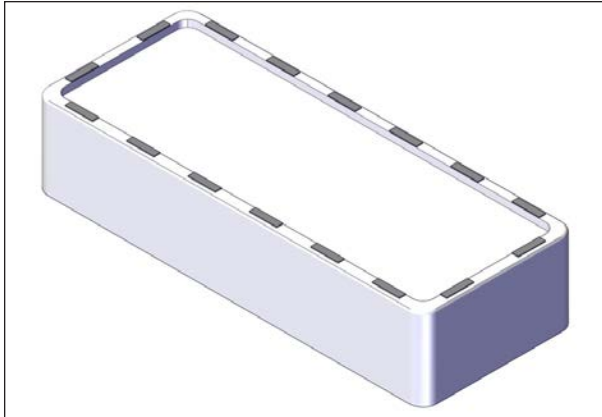

FIGURE 30: FOAM SPACER INSTALLATION
1. Install the foam spacers on the top of the spa using the masking tape provided in the seal bag to keep the spacers in place. There must be at least four foam spacers on each long side plus two in each corner. Do not stack foam spacers, see Figure 30.